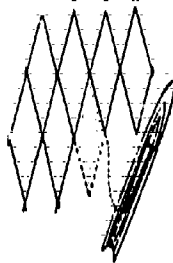

Fig. 30
1. With the exception of the starting and finishing knot, every knot formed must complete a mesh with four equal sides. (Fig. 30 and 31, half mesh knot; Fig. 32 side knot; Fig. 33 pick up knot.) When the starting knot is made no mesh is formed; when the finishing knot is made two meshes are formed.